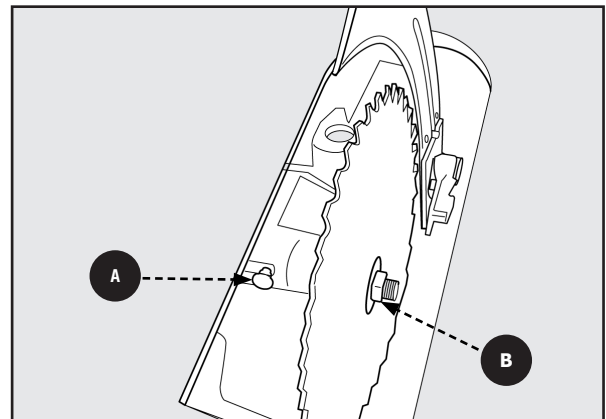

Figure 36
2. Push and hold arbor lock button **A**, see Figure 36.